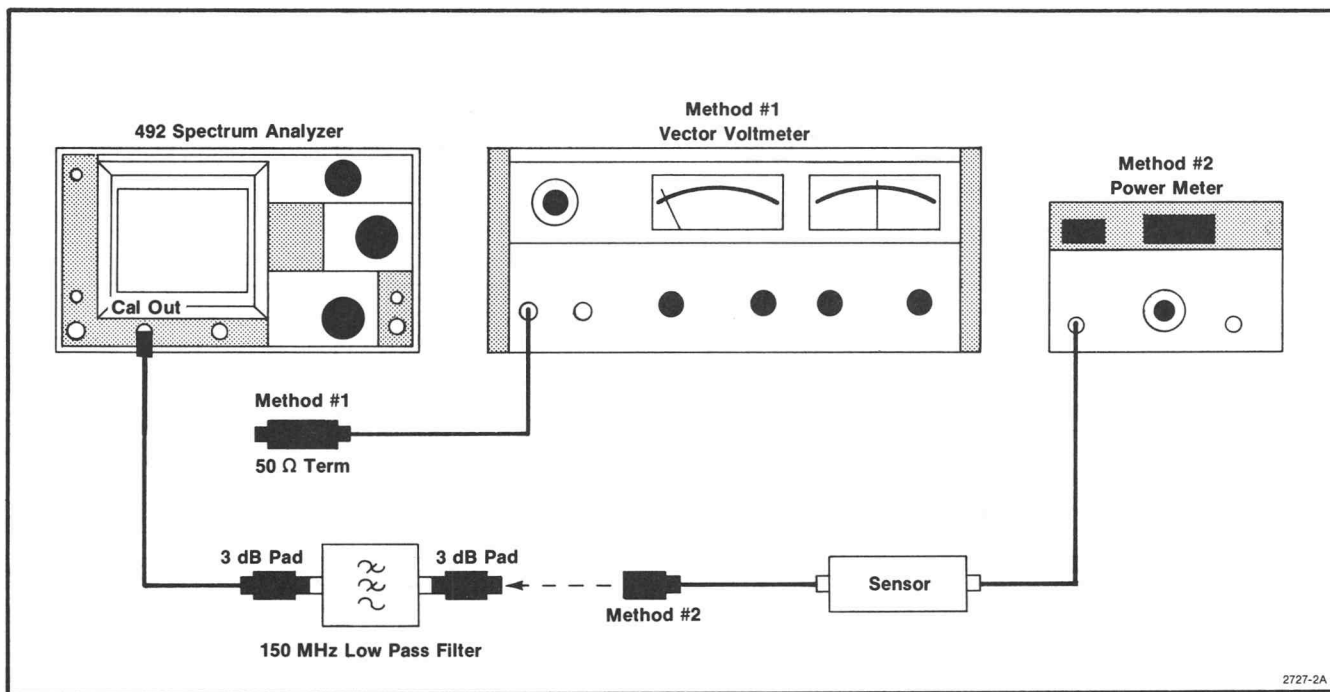

Fig. 3-2. Test equipment setup showing two methods that check calibrator output level.
a. Terminate the voltmeter probe with a 50 Ω feedthrough termination and then connect the terminated probe to the 492 CAL OUT connector (Fig. 3-2).
- a. Test equipment setup is shown in Fig. 3-2.